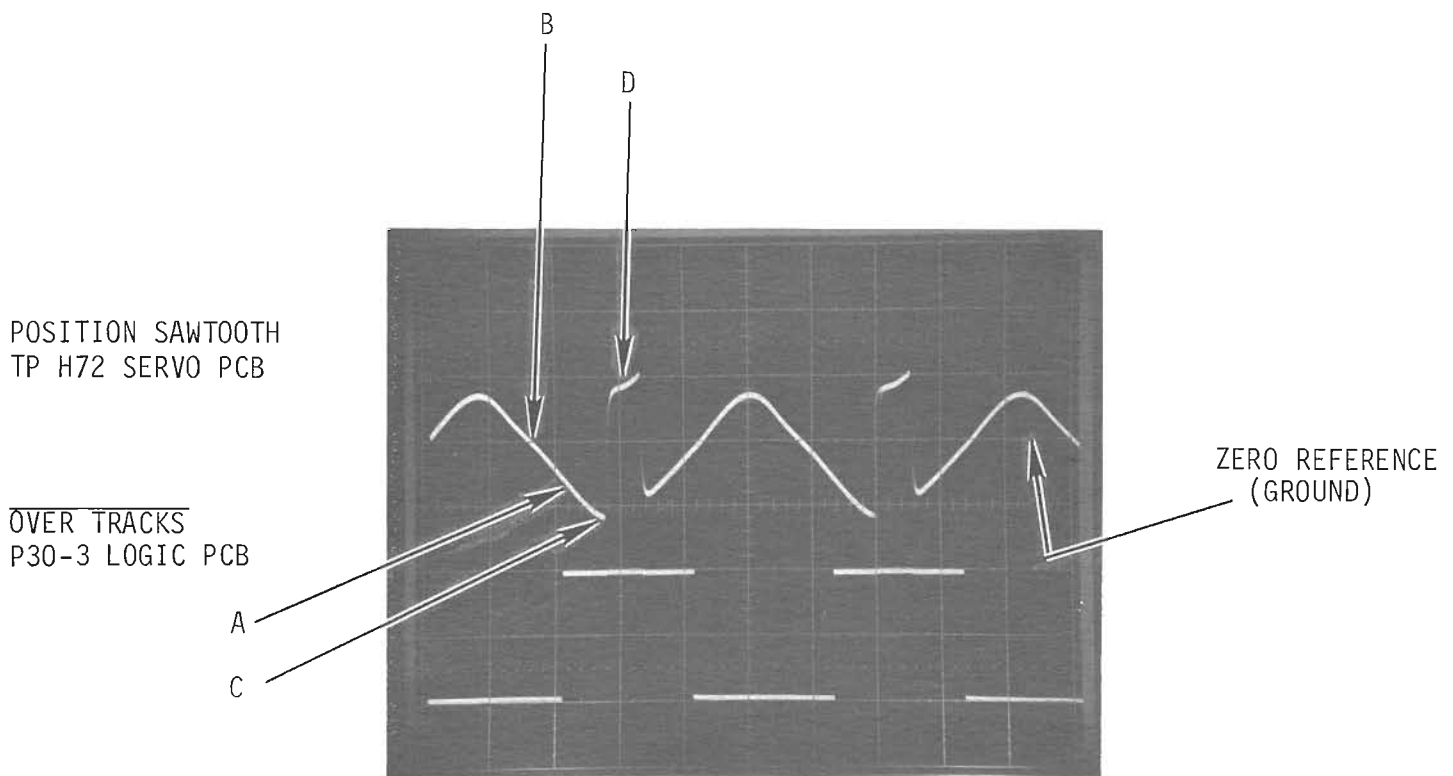

FIGURE 13 TRACK 0 SENSOR FINE ADJUSTMENT WAVESHAPES
4. Adjust the position of the Track  $\emptyset$  sensor until P30-3 (TP P74 for 12065-01 artwork) switches high at point "A" in the *Position Sawtooth* waveshape, Figure 13. Point "A" occurs at the vertical midpoint between points "B" (Reference point) and "C" (negative peak of *Position Sawtooth* waveshape). This may be seen more easily by superimposing the two waveshapes via re-adjustment of vertical position controls. When the adjustment is correct, pulse "D" will not exceed 1.5 ms in duration.